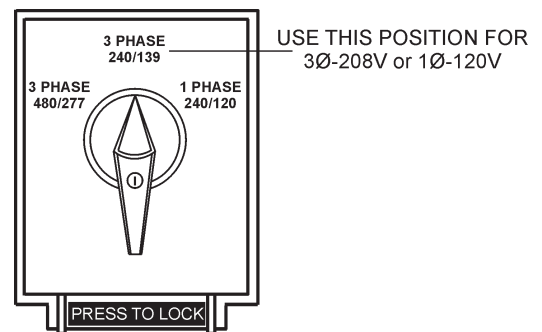

**Figure 22. Voltage Selector Switch
1. Place the voltage selector switch in the 3Ø 240/139 position as shown in Figure 22.